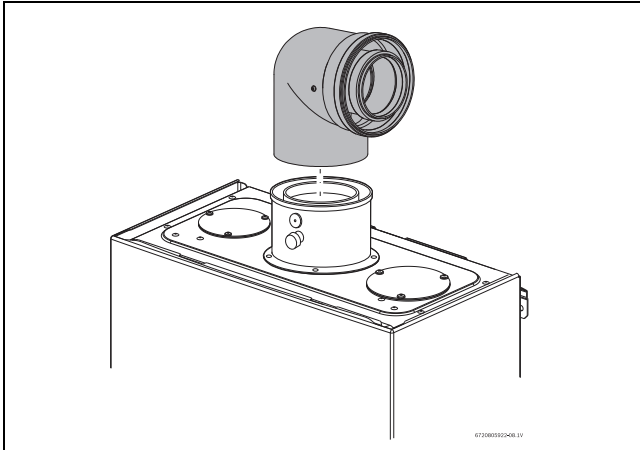

Fig. 6 Installing elbow
Use the blind cover and gasket supplied with the kit to close the second combustion air opening on the top of the appliance (→ Fig. 6).
- ▶ Measure the length of the vent terminal assembly (→ Fig. 6, [1]) taking into account the thickness of the outside wall [S] and the distance from the outside wall to the end of the vent pipe [L]. It is recommended to keep at least 4" (100mm) clearance from the ceiling or joists for accessibility reasons.